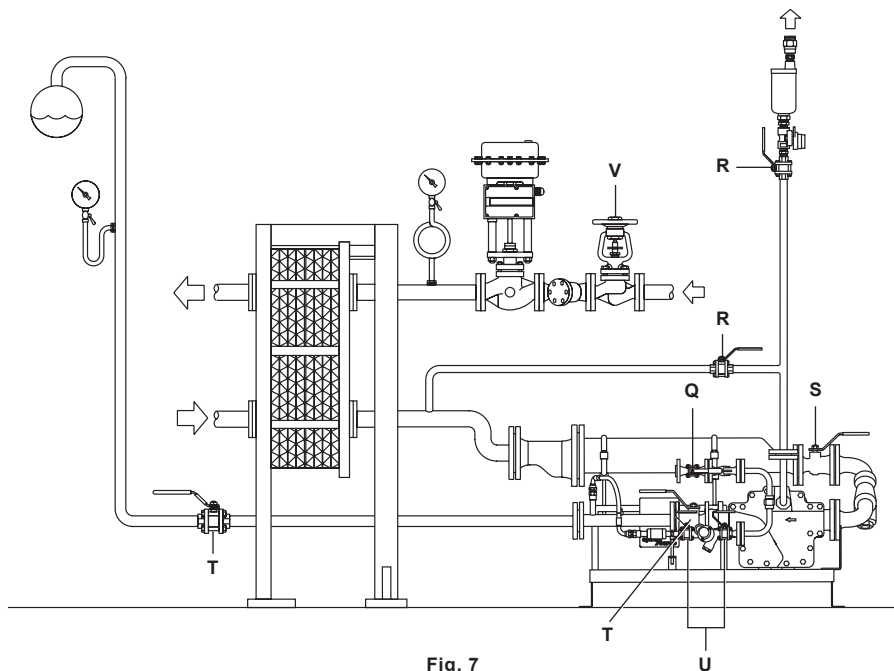

Fig. 7
- Is the exhaust balance line connected to the outlet of the equipment being drained and is it free from obstruction (refer to the installation diagram Figure 7)?